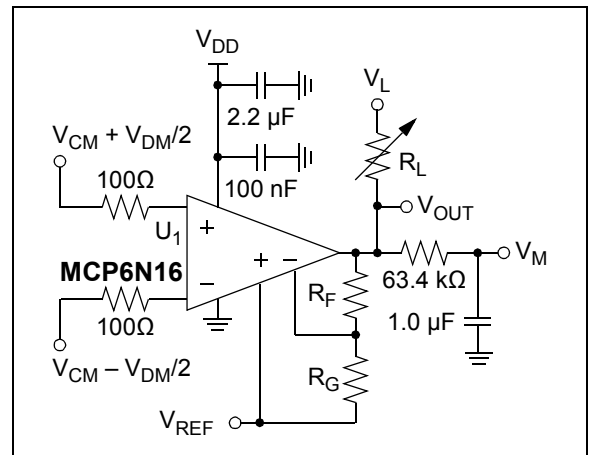

FIGURE 1-8: Simple Test Circuit for Differential Mode.
- Note 2:** These parameters were characterized using the circuit in Figure 1-8. In Figures 2-75 and 2-76, there is an IMD tone at DC, a residual tone at 100 Hz and other IMD tones and clock tones.
Figure 1-8 is a simple circuit that can test the INA's differential gain error, nonlinearity and input voltage range (g_E , INL_{DM} , V_{DML} and V_{DMH} ; see Section 1.5.3 "Differential Gain Error and Nonlinearity"). R_F and R_G are 0.01% for accurate gain error measurements.
The circuit in Figure 1-8 can test the input's dynamic behavior (i.e., IMD , t_{STR} , t_{STL} , t_{IRC} , t_{IRD} and t_{OR}); measure the output at V_{OUT} , instead of at V_M .